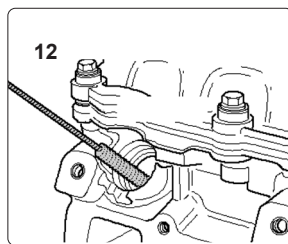

fig.17
- 8.4.4. Some injectors require the use of VS2083.17 Calibration Sleeve in place of the VS2083.14 Sleeve to set the support ring to the correct installation depth - Example 1.4FSi engines (fig.17).